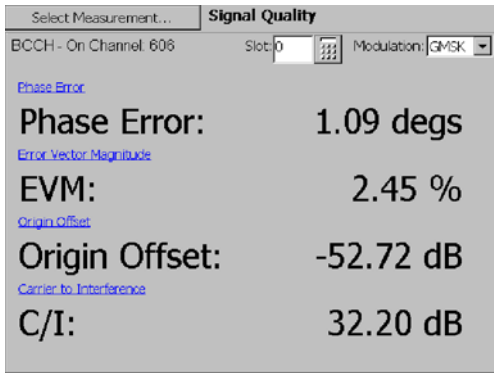

Figure 3-49: GSM/EDGE Signal Quality measurement
4. Tap **Signal Quality**. See Figure 3-49.